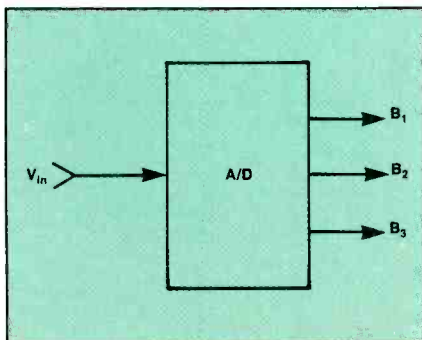

Figure 3. An ADC converts an analog voltage or current to an equivalent binary word that can be input directly to a computer or other digital device.
shown in Figure 3. The transfer function is the same as in Figure 2 with vertical and horizontal axes swapped.
Figure 3. The magnetic resistance effect of the MR head uses the principle in which the magnetic resistivity (ΔR) reduces its effect in response to the intensity of the magnetism (ΔH) that is applied to the videotape.
The circuitry used to apply the index signal to the full erase head and extract it from the tape with the special MR head is shown in Figure 2. Details of the MR head are shown in Figure 3. It uses the principle in which the magnetic resistivity (ΔR) reduces its effect in response to the intensity of the magnetism (ΔH) that is applied to the video tape. Thus, with a constant bias current flow (I) in the MR head, a constant out-